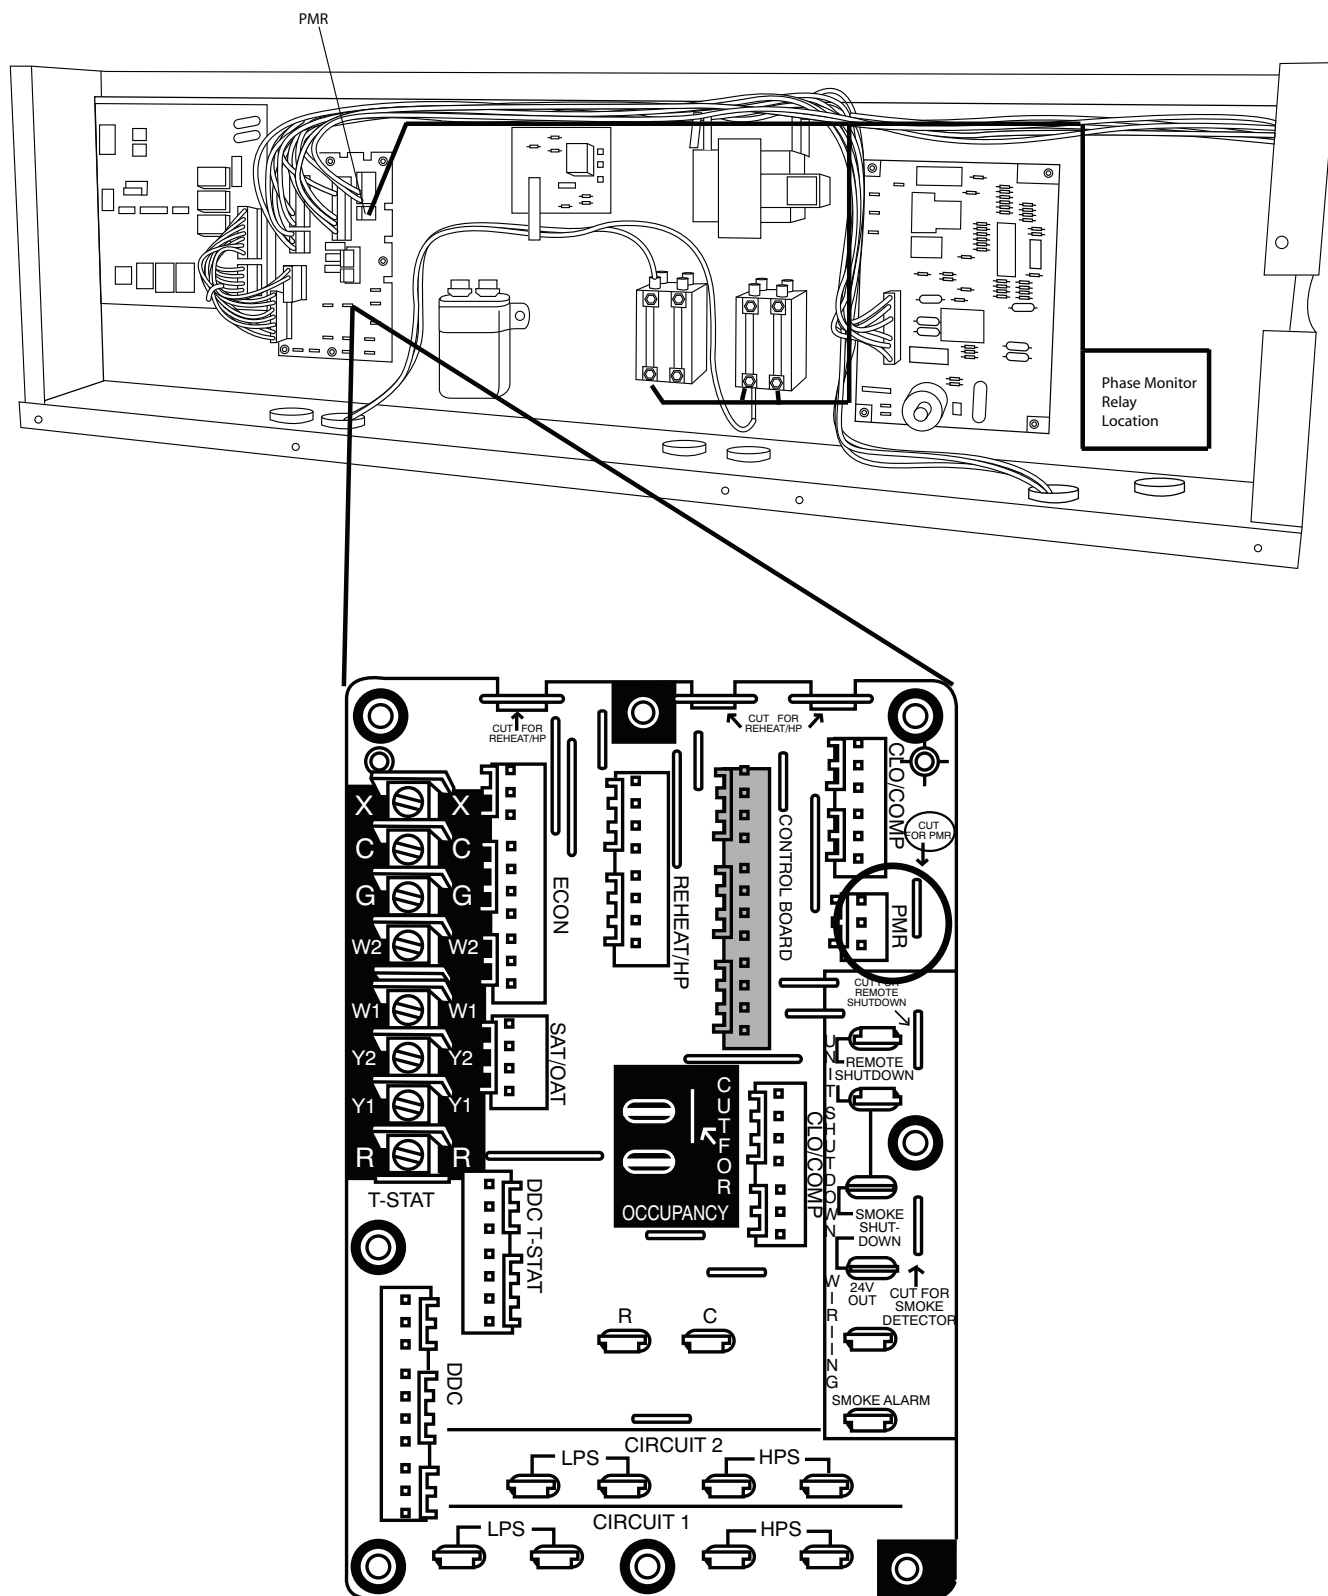

**Fig. 2 - Controls Box Showing Mounting Location and Recommended Wire-Routing Path
2. Install the phase monitor module in the unit control box as shown in Fig. 2. Use the screws provided in the kit, screwing into the pre-drilled holes in the back of the control box.
3. Using the provided wiring harness, connect the female moxex plug to “PMR” male connector on the units mounted terminal board. See the terminal board diagram on Fig. 2.